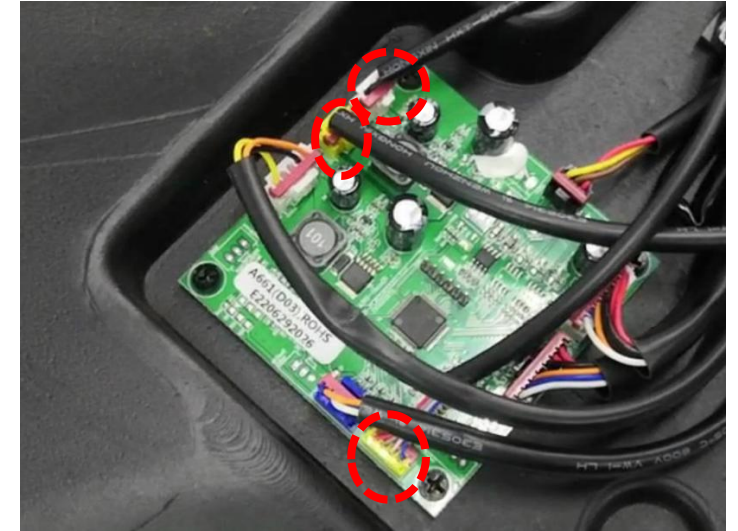

Figure 3
3. Separate the three plug-ins at the red circle to remove the armrest assembly (Figure 3)
4.17. Disassembly of armrest, intelligent voice control board, wireless charging board and USB board (1)